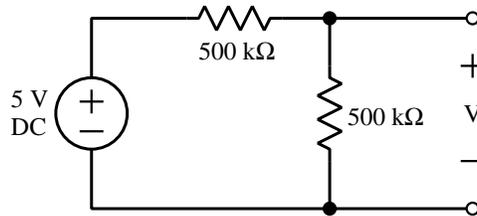

Figure 2: A Voltage Divider
Determine the theoretical values of the voltage and current for all labeled elements in Figures 2 and 3.
3.) Connect up the circuit as shown in Figure 2, but first measure the resistance of the two  $500\text{ k}\Omega$  resistors. Use the constant 5 V output from the Mastech DC Power Supply HY3005D-3, the breadboard on the lab bench, and  $1/4\text{ W}$  resistors from the cabinet to construct your circuit. Single-core, 22 Gauge wire and wire strippers are available for you to use as well.
4.) Replace the 5 V DC source in Figure 2 with a  $5\text{ V}_p$  ( $5\text{ V peak} = 10\text{ V peak-to-peak}$ ), 80 Hz sinewave. (Adjust the  $10\text{ V}_{pp}$  AC source using the variable voltage control on the SFG-1013 Function Generator.) Take two analog measurements of the voltage  $V$  using the Senior Volt Ohmyst WV-98C and the Tektronix 210 or 1002 oscilloscope. Again, compare your results. Which is more accurate, and why?